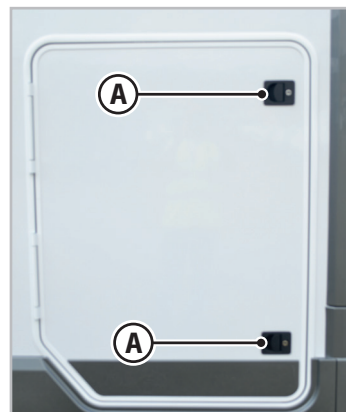

Fig. 5.3 - Garage locker locks
- Check that you have locked the garage locker by securing all the locks (A -Fig.5.3) before starting to travel. Simply closing the flap by applying pressure will not ensure it is secured.
The garage locker is equipped with two locks (A - Fig.5.3).